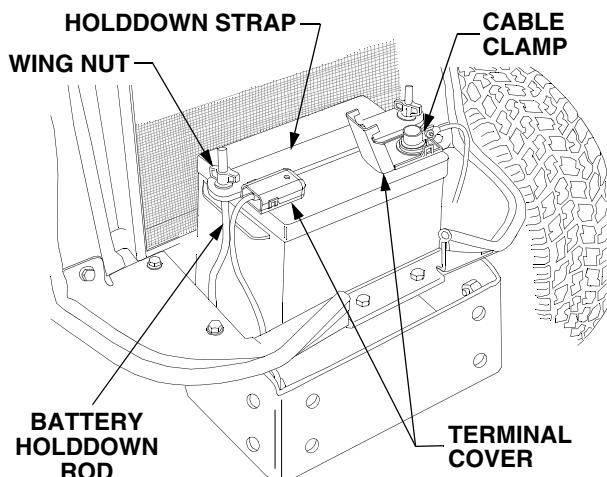

Figure 34
- Remove the two wing nuts and the battery holdown strap from the battery holdown rods. See Figure 34.
- Spread the locking clips on the sides of the terminal covers and lift the tops of the covers to expose the battery connections. See Figure 34.